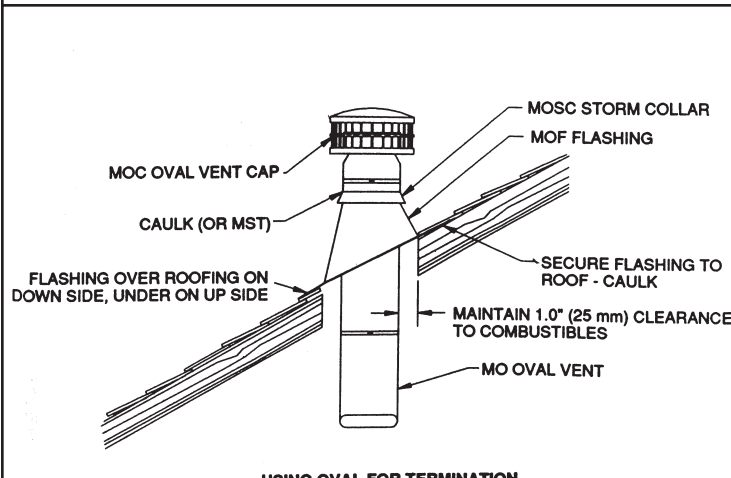

FIGURE 6 USING OVAL FOR TERMINATION
4. If your installation terminates as oval, the Oval Flashing (MOF) and Oval Storm Collar (MOSC) are shown in Figure 6. An Oval Vent Cap (MOC) completes the installation.